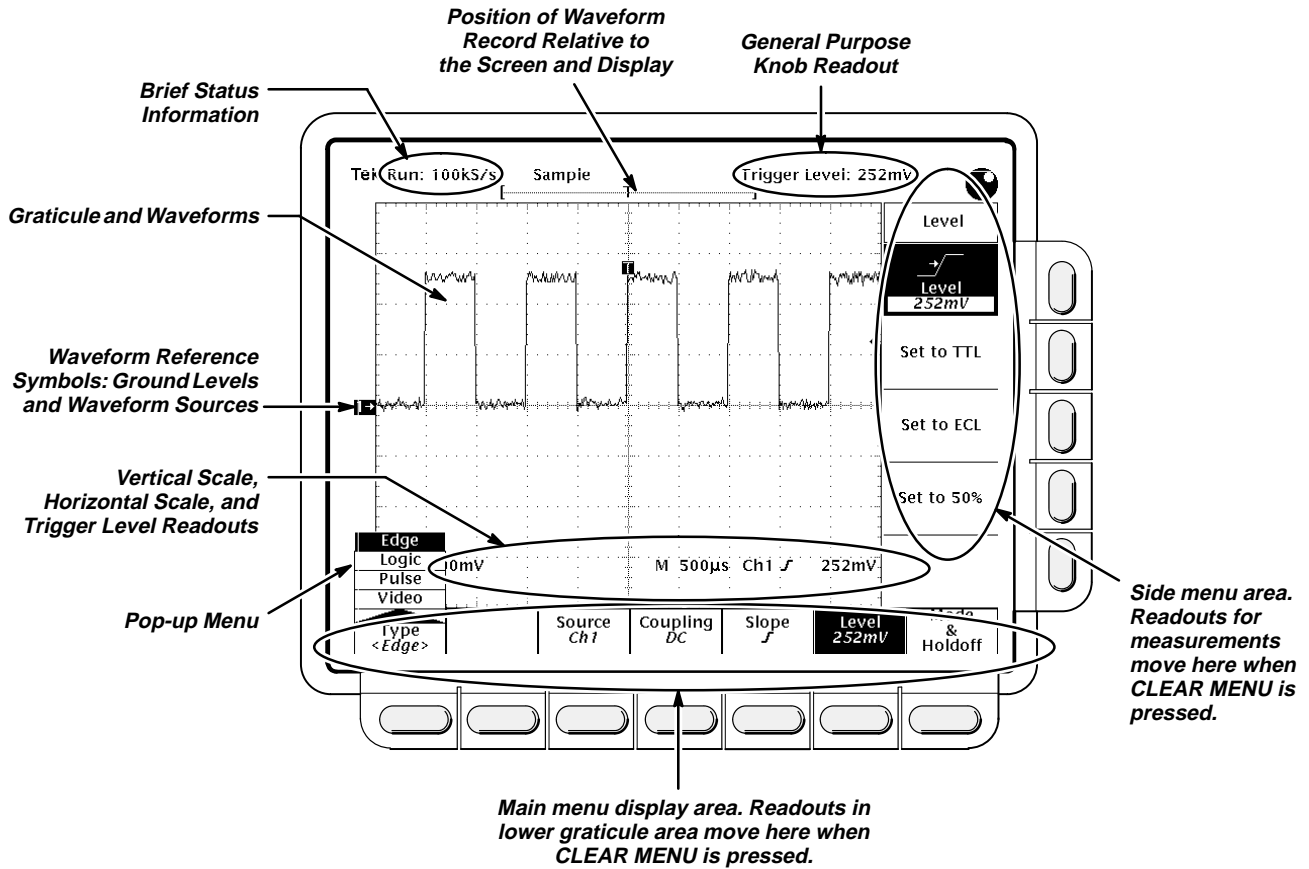

Figure 1-1: Map of Display Functions
- Refer to Figure 1-1: “Main menu” refers to the menu that labels the seven menu buttons under the display; “side menu” refers to the menu that labels the five buttons to the right of the display. “Pop-up menu” refers to a menu that pops up when a main-menu button is pressed.
- The vertical scale readout for the channel under test shows a setting of 200 mV, and a square-wave probe-compensation signal about 2.5 divisions in amplitude is on-screen. (See Figure 1-1 on page 1-3 to locate the readout.)